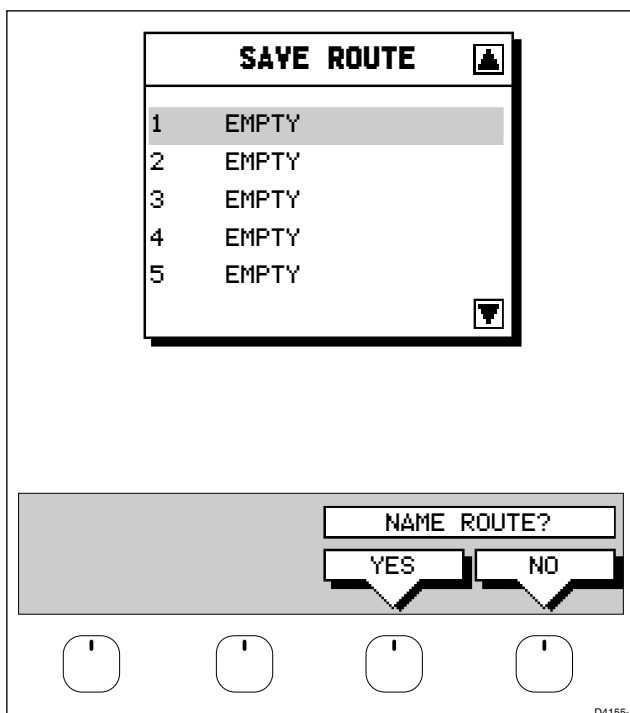

Figure 3-6: Save Route Window
2. Press the SAVE ROUTE soft key. The save route pop-up and the NAME ROUTE soft keys are displayed as illustrated in *Figure 3-6*.